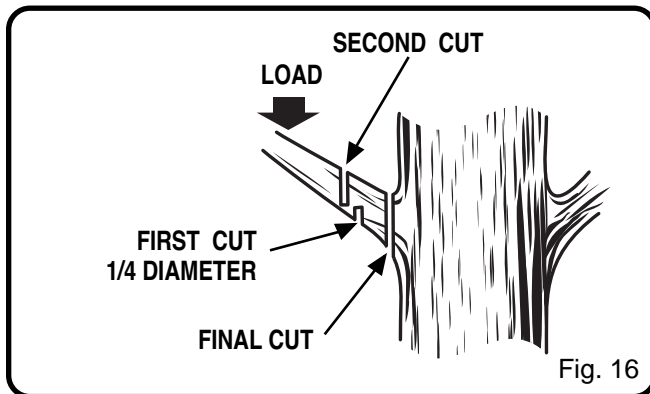

Fig. 16
- When pruning trees it is important not to make the flush cut next to the main limb or trunk until you have cut off the limb further out to reduce the weight. This prevents stripping the bark from the main member. Underbuck the branch 1/4 way through for your first cut, your second cut should overbuck to drop the branch off. Now make your final cut smoothly and neatly against the main member so the bark will grow back to seal the wound. See Figure 16.